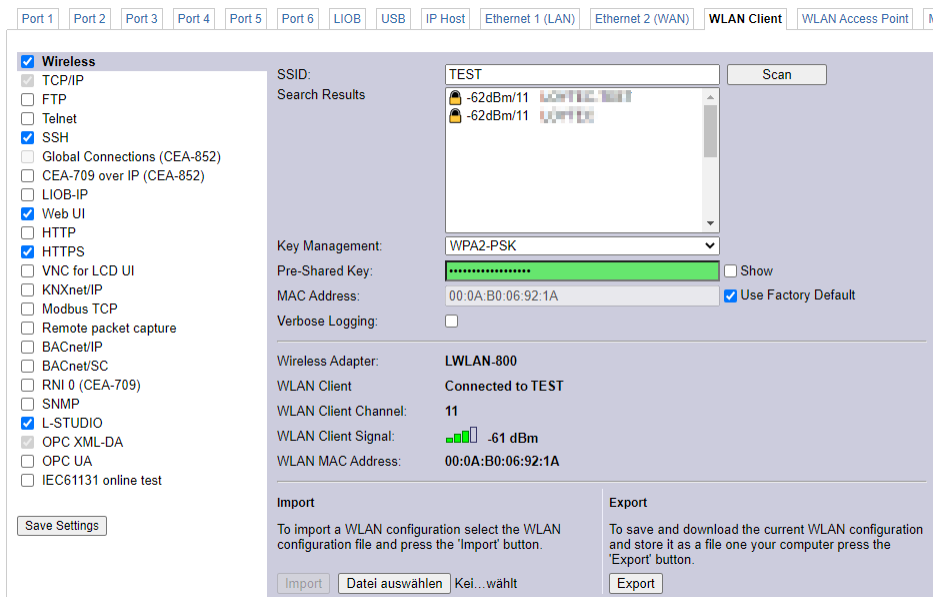

Figure 53: WLAN Client Settings
**WLAN Client** tab: This tab allows configuring the WLAN interface in client mode. In this mode the WLAN client connects to an existing access point. A wireless interface in client mode has the settings shown in Figure 53.